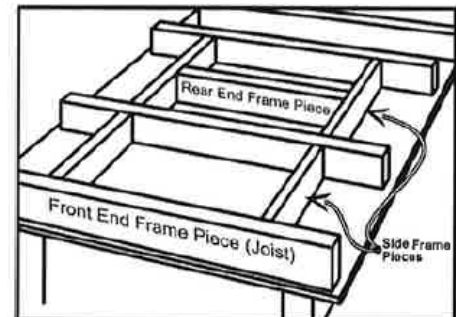

Figure 15
3. Before cutting a joist in a finished ceiling we suggest cutting and removing the sheet rock from the shutter opening, then framing the opening between joists and at the side with joist sized lumber extending to and nailed to the adjoining joists as shown in Figure 15.